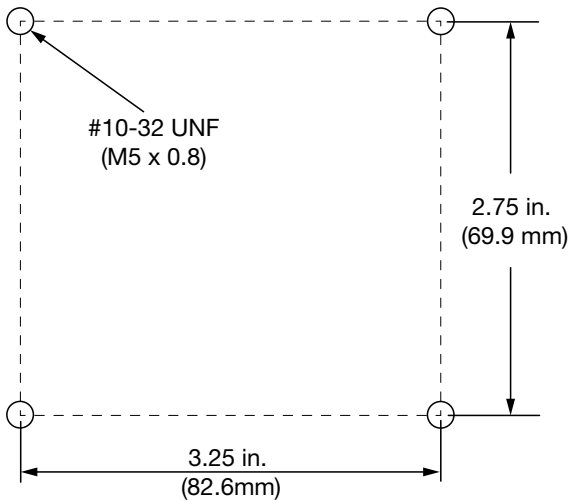

FIG. 50
2. Mount base (B) in desired location with four screws supplied in this kit. See FIG. 50 page 130.